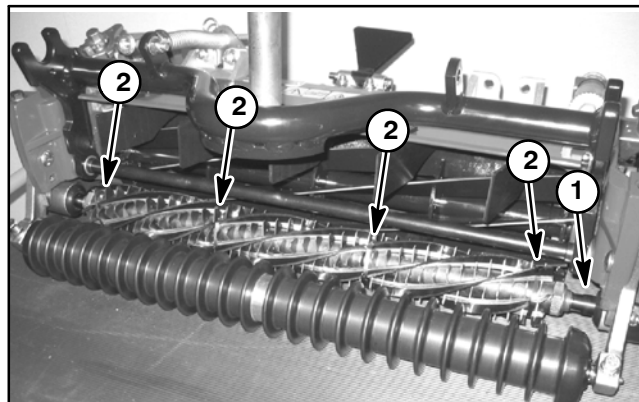

Figure 13
4. If groomer reel is equipped with broomer kit (Fig. 13), remove straps and broomer brushes from reel.
5. If groomer reel is equipped with broomer kit (Fig. 13), position broomer brushes to reel blades and secure with straps. Straps should be positioned between blades 1-2, 14-15, 28-29 and 41-42. Pull straps tight and cut off strap extension approximately 1/4" (6 mm) beyond retainer.